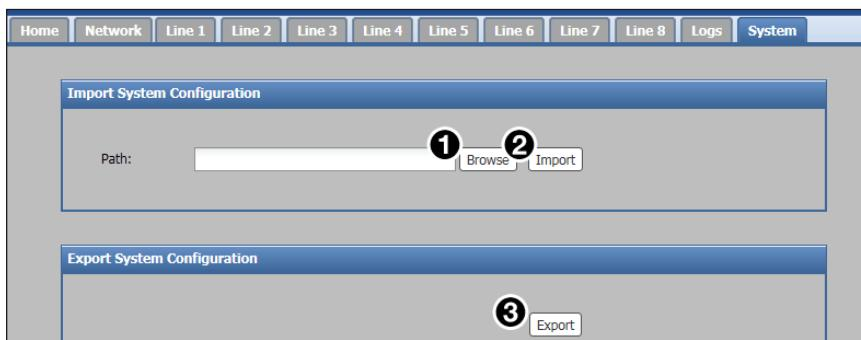

Figure 50. VoIP System Page
The **System** tab allows users to export VoIP configurations to a JSON file (see figure 50). These configuration files are used to return DMP 64 Plus devices to a known VoIP configuration. Additionally, partial configurations (individual JSON fields) can be applied using the import tool.
5. In the Import System Configuration panel, click the **Browse** button (see **figure 50, ①** on page 82) to locate the `voipConfig.conf` file created in the previous steps.
6. Click the **Import** button (**②**) to update the DMP Plus Series with the new settings. A notification appears once the settings have applied successfully.